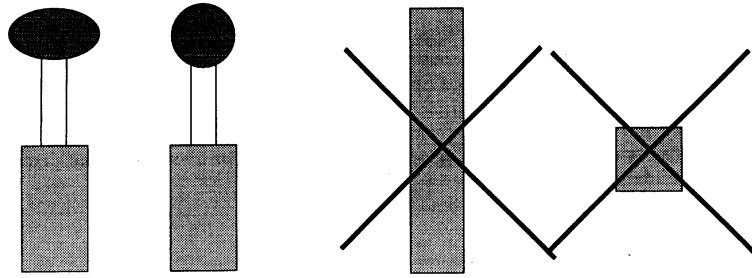

Figure 6
- Have a circular diameter of 30mm ( $1\frac{1}{4}$  inches) to a maximum of 40mm ( $1\frac{3}{4}$  inches). Illustrated in CSA Figure 6 below.